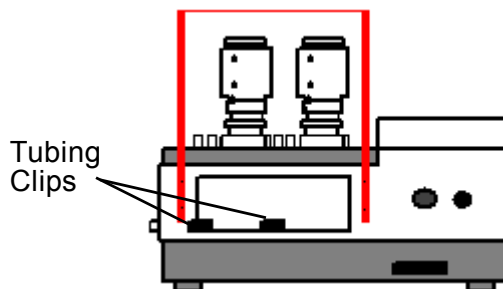

Figure 18. Tubing Clips
- b Fasten the clips to the service panel using the lower-left and lower-center service panel screws as shown in Figure 18.